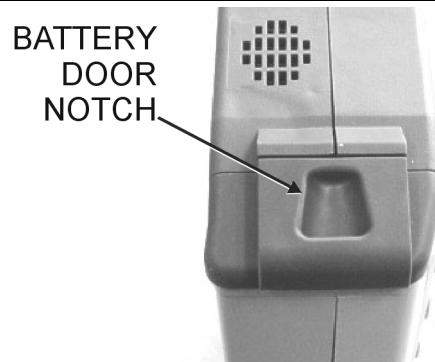

Figure 5. Battery Access Door Notch
2. Place a finger in the battery access door notch and push the door down towards the bottom of the instrument, as illustrated in Figure 5.